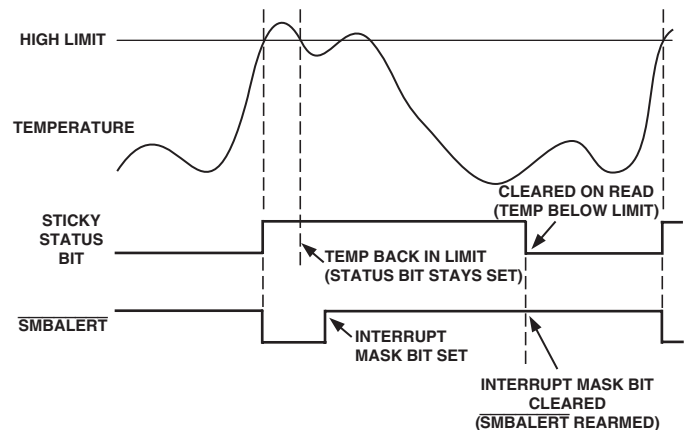

Figure 24. How Masking the Interrupt Source Affects SMBALERT Output
7. Periodically poll the status registers. If the interrupt status bit has cleared, reset the corresponding interrupt mask bit to 0. This will cause the SMBALERT output and status bits to behave as shown in Figure 24.